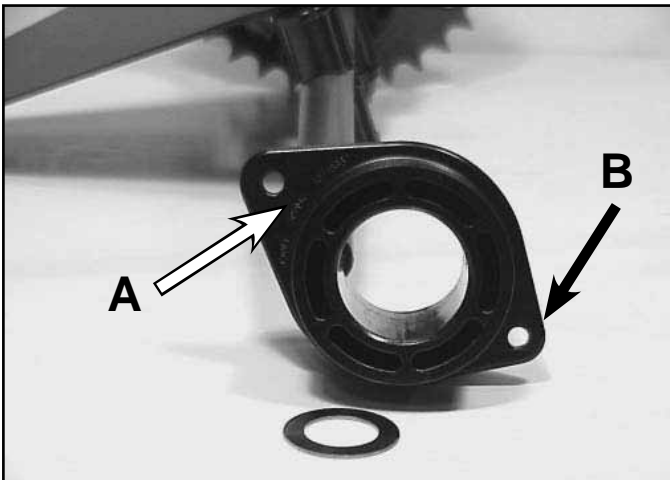

Fig 182 MVC-879X.jpg
4. Remove shift collar and flat washer from the shaft (Fig. 182).